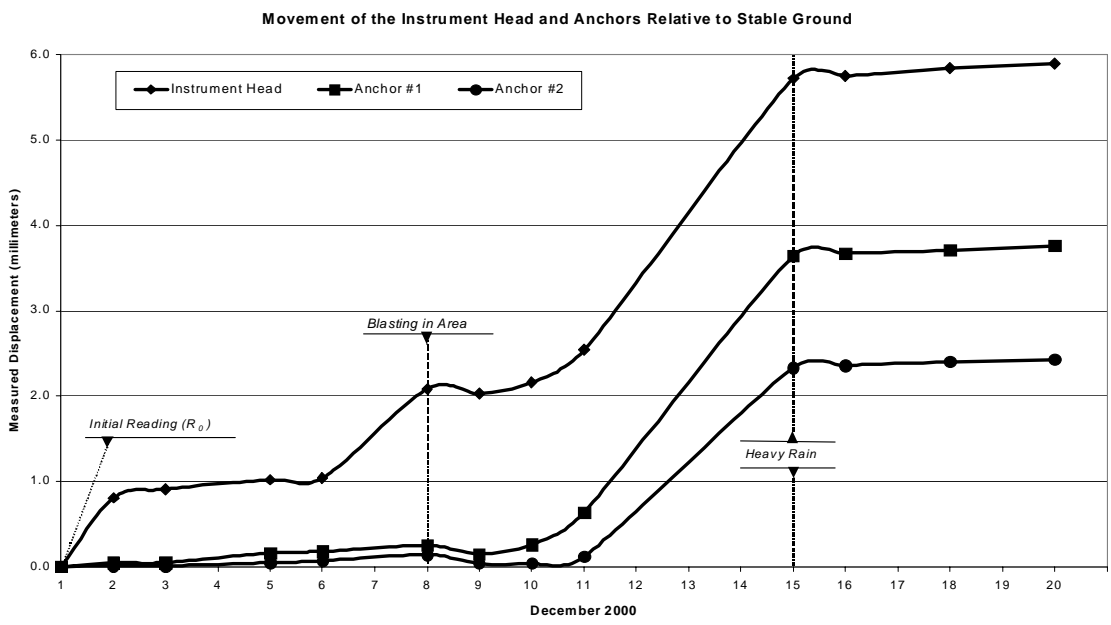
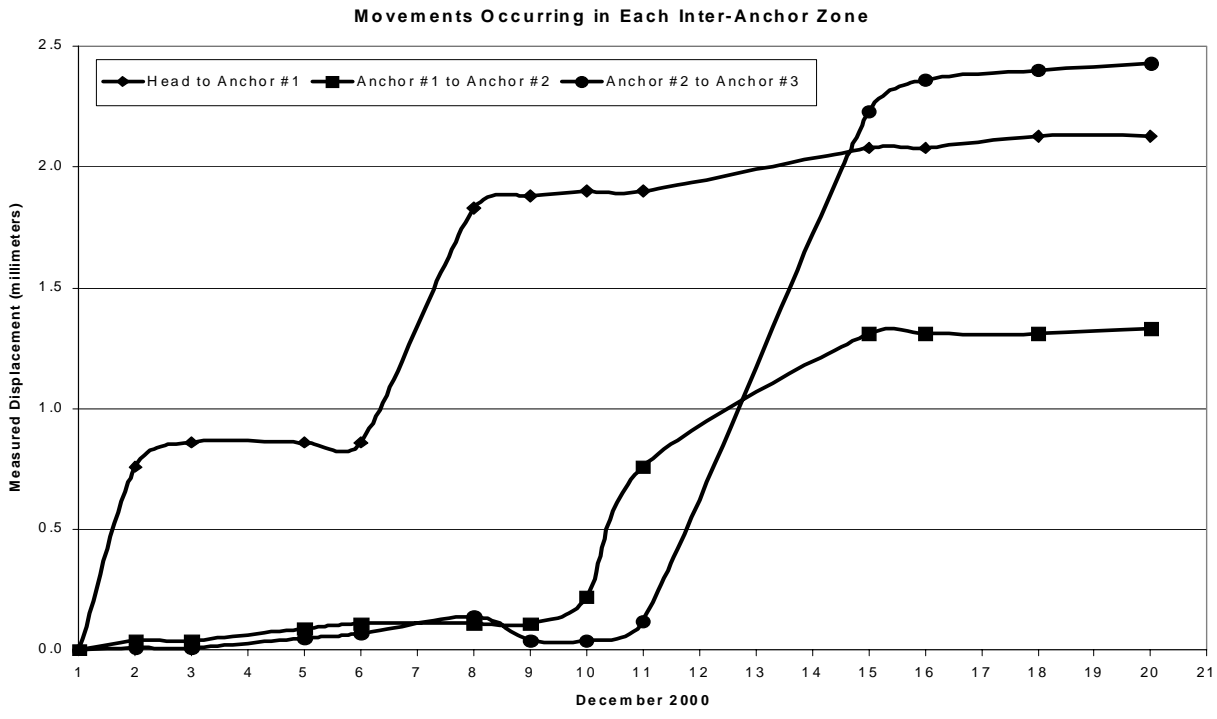

Figure 5. Movement of the Head and Anchors Relative to Anchor 3 in Stable Ground
Figure 6 Movements Occurring in Each Inter-Anchor Zone
- 5.1.3 The data shown in Table 3 could be plotted and shown in a graph like the one shown in Figure 5.
Inspection of the plot shows that initial movement occurred in the zone closest to the surface during the first 3 days and again on day 8 following blasting in the area. On day 15, following a heavy rainfall, deep-seated movements occurred in the zone between anchors 2 and 3 and also in the shallower zones. Movements occurring in any inter-anchor zone can be inferred from the spacing between the individual plots of Figure 5, or they can be plotted separately as shown in figure 6